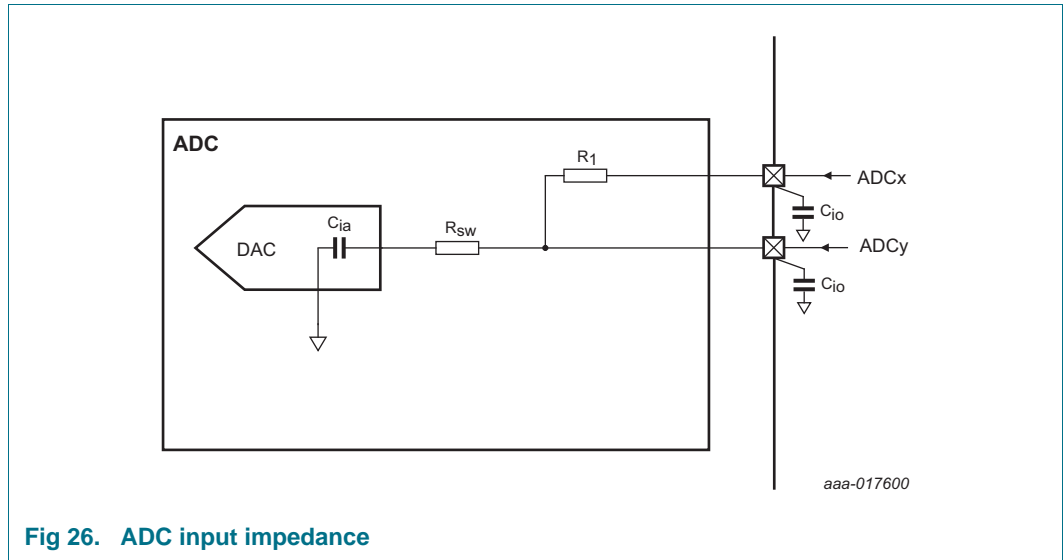

Fig 26. ADC input impedance
- [10] Input impedance Z_i is inversely proportional to the sampling frequency and the total input capacity including C_{ia} and C_{io} : $Z_i \propto 1 / (f_s \times C_i)$. See Table 20 for C_{io} . See Figure 26.
- (1) Example of an actual transfer curve.
- (2) The ideal transfer curve.
- (3) Differential linearity error (E_D).
- (4) Integral non-linearity ($E_{L(adj)}$).
- (5) Center of a step of the actual transfer curve.
Figure 26 shows the ADC input impedance. In this figure: